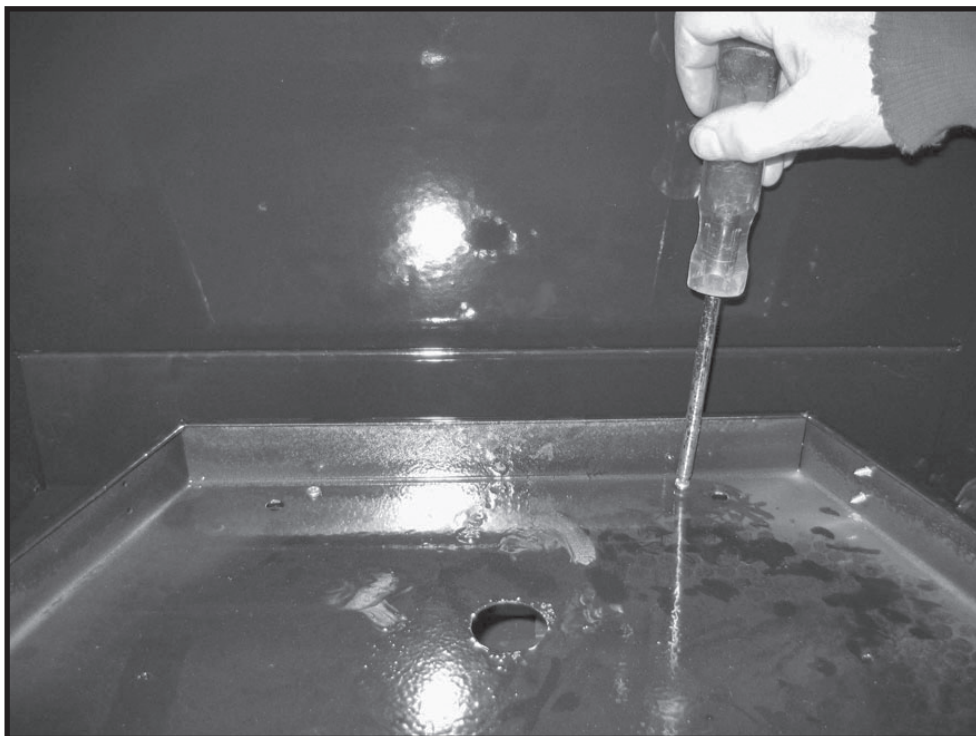

Figure 14: Attaching burner tray to burner shield.
6. Attach the burner tray to the burner shield using two screws at the back of the tray (Figure 14). Ensure that front mounting holes are aligned under tray before tightening.